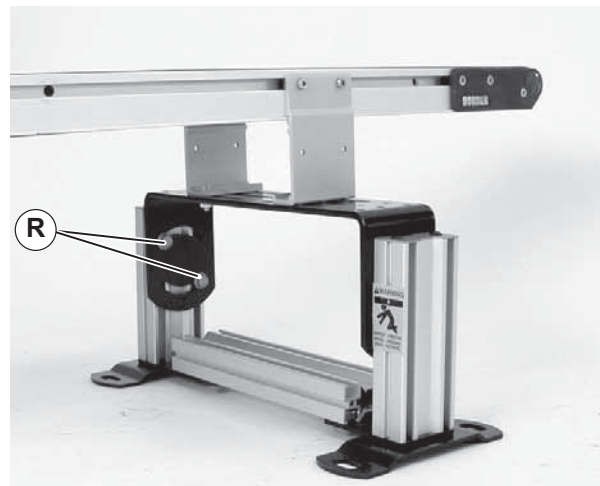

Figure 15
<p>Failure to secure screws (Figure 15, item R) may cause conveyor sections to drop down causing severe injury. TIGHTEN SCREWS (R) AFTER ADJUSTMENT.</p>
3. Tighten flange head hex screws (Figure 15, item R) to 150 in-lb (17 N-m).